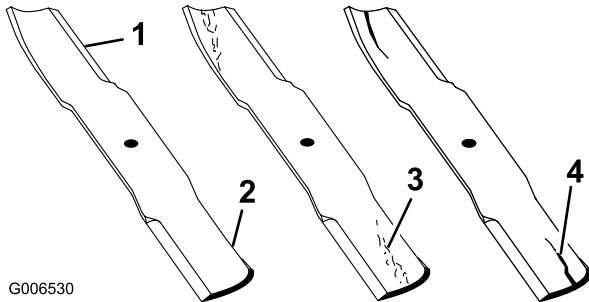

Figure 40
4. Examine the cutting ends of the blade carefully, especially where the flat and curved parts of the blade meet (Figure 40). Since sand and abrasive material can wear away the metal that connects the flat and curved parts of the blade, check the blade before using the machine. If the blade is worn (Figure 40), replace the blade; refer to Removing the Cutting Blade \(page 19\).
If the blade is allowed to wear, a slot can form between the sail and flat part of the blade (Figure 40). Eventually, a piece of the blade may break off and be thrown from under the housing, possibly resulting in serious injury to you or bystanders.